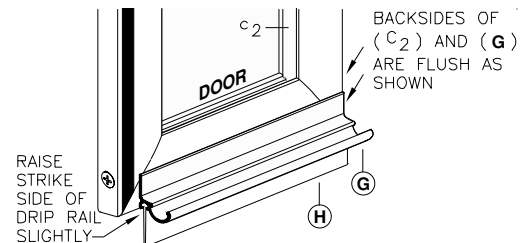
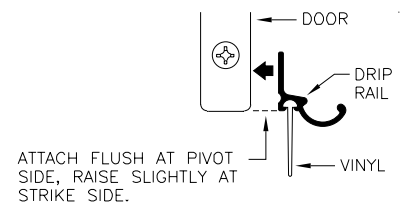

figure 6
figure 7
8. Clean bottom rail of door with alcohol to remove any oil. Failure to clean door rail prior to installation of Drip Rail (G) may cause tape to release. Remove backing from tape and position Drip Rail flush with backside of Hinge Stile (c2) as shown in figure 6 and flush with bottom of Door as shown in figure 7. Slightly elevate Drip Rail at strike side before securing to create a sloping effect. Attach a Drip Plug (I) on strike side of Drip Rail (see exploded view - sheet 1).